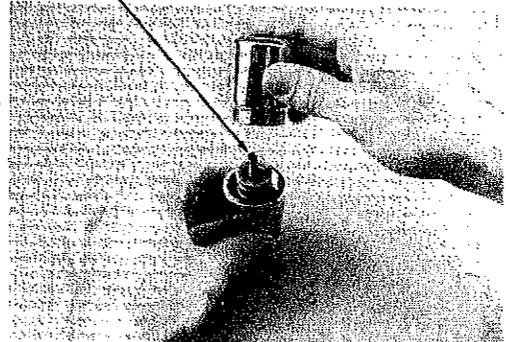

Fig. 10A
9. Rotate the main body and the piston cap in opposite directions to separate, with the main body facing up vertically. Lift the main body straight up and off the shaft of the piston(32) to avoid any angular pressure that might damage the delicate edge of the piston shaft(32). (See fig. 10A.) Set the piston cap aside, standing on the swivel, with the piston shaft exposed and facing up.
10. Look for the colored spring isolator(30) found either inside the cavity of the main body, or on the end of the valve spring(31). Remove and inspect for signs of wear or distortion, and discard if found.
11. Insert the prongs of a genuine Oceanic face spanner wrench into the two outer recessed holes of the valve seat end plug(24), found on the end of the main body. Use downward pressure to hold the tool seated securely, and rotate the end plug in a counterclockwise direction to remove. Remove and discard the valve seat o-ring(27). Remove and inspect the end plug o-ring(25) for any signs of decay. Discard if found.